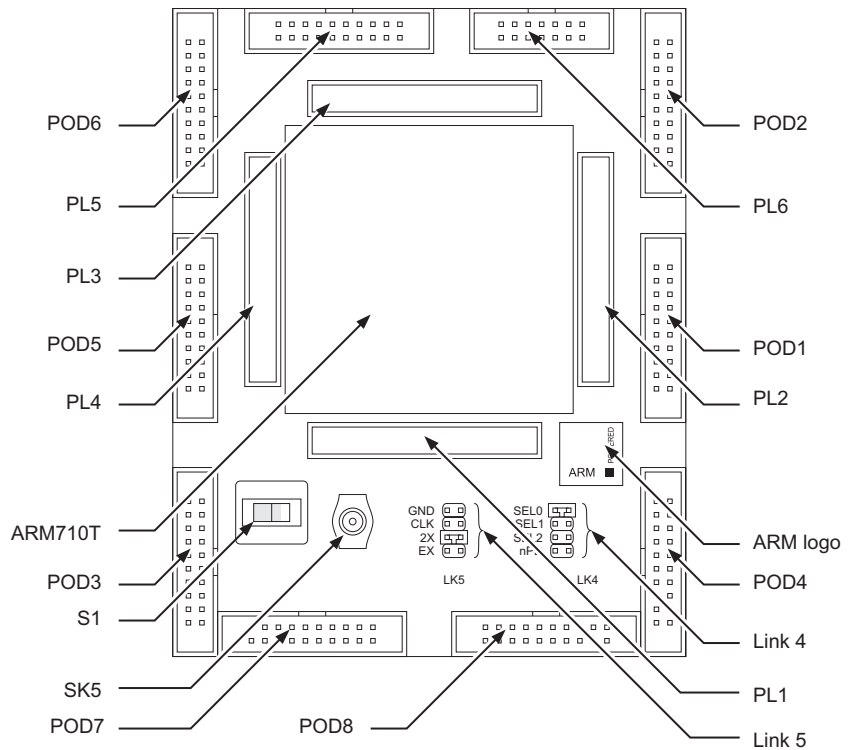

Figure 1-1 Board layout
Figure 1-1 shows the layout of the main components of the ARM710T header card.
Switch S1 is used to select between asynchronous mode (STD) and Fastbus mode (FB). The position of S1 is shown in Figure 1-1 on page 1-3.